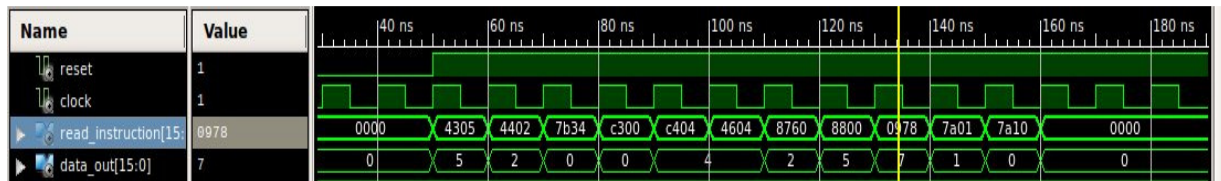

Fig.3 – Simulation trace of lab 08.
- To test your design, the instructions listed in Table 1 will be used. First of all, you will make sure that by running your design initially (i.e. running the testbench without altering the instruction file) the simulation trace is identical to the results obtained in Lab08, as shown in Figure 3.